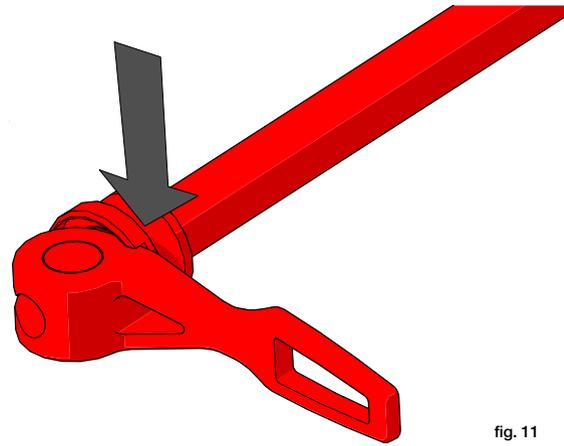
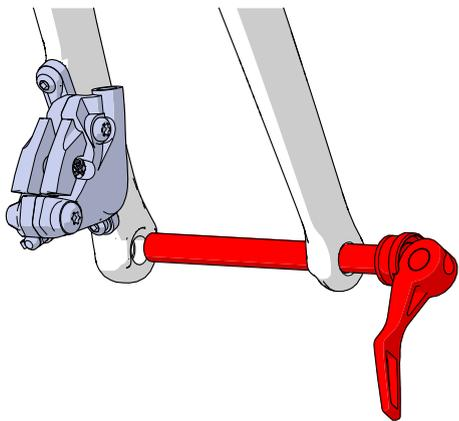
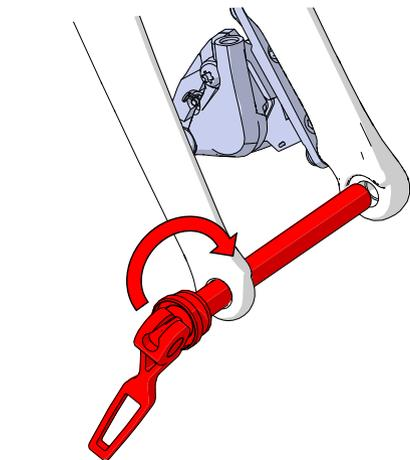
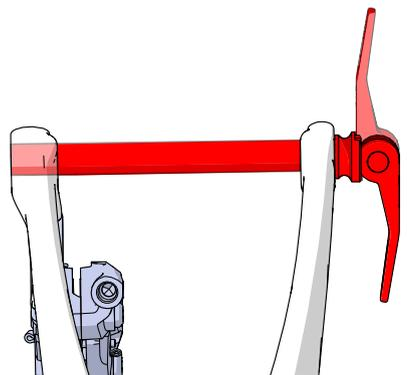

fig. 11
fig. 12
fig. 13
fig. 14
The wheel hub is clamped in place by threading the axle into the opposite dropout, and then closing the cam-action preload lever so that it is locked into place. The amount of clamping force is controlled by turning the preload lever when it has engaged the slotted OPEN position. Turning the lever clockwise while engaged in the slotted OPEN position (fig. 11) increases clamping force; turning it counterclockwise reduces clamping force. Once proper clamping force is applied, closing the lever prevents further adjustment of the clamping force.
5. If your bike has a through axle mechanism, move the preload lever to the OPEN position and rotate it to engage the slotted OPEN position (fig. 11). Carefully insert the wheel between the fork blades, ensuring that the disc rotor properly slots between the brake pads as it slots into the caliper until the hollow axle lines up with the holes in the fork dropouts. The preload lever should be on the right side of the bicycle. Slide the through axle through the fork dropout and wheel hub until it contacts the dropout on the left side of the fork (fig. 12). Visually align the through axle with the dropout hole on the left side of the fork, and turn the preload lever clockwise to thread the axle into the dropout (fig. 13). Continue to tighten until the threads are fully engaged in the left side dropout. Move the preload lever into the CLOSED position (fig. 14). The lever should now be parallel to the fork blade and curved toward the wheel.
4. With a cam action mechanism, move the quick-release lever to the OPEN position (fig. 7a). With a through bolt or bolt on mechanism, loosen the fastener(s) with an appropriate wrench, lock lever or integral lever; then push the wheel forward far enough to be able to remove the chain from the rear sprocket. With a through axle mechanism, move the preload lever from the CLOSED position to the OPEN position. Rotate the lever as required to engage the slotted OPEN position, (fig. 11) then turn the lever counterclockwise until the threads on the opposite side of the axle are fully disengaged from the right side dropout. Hold the wheel steady with one hand, and pull the axle through the hub and the left dropout to fully remove it from the wheel.
1. With a cam action system, move the cam lever to the OPEN position (see fig. 7 a & b). The lever should be on the side of the wheel opposite the derailleur and freewheel sprockets. With a through axle mechanism, move the preload lever to the OPEN position, and rotate as required to engage the slotted OPEN position (fig. 11). The preload lever should be on the left side of the bicycle.